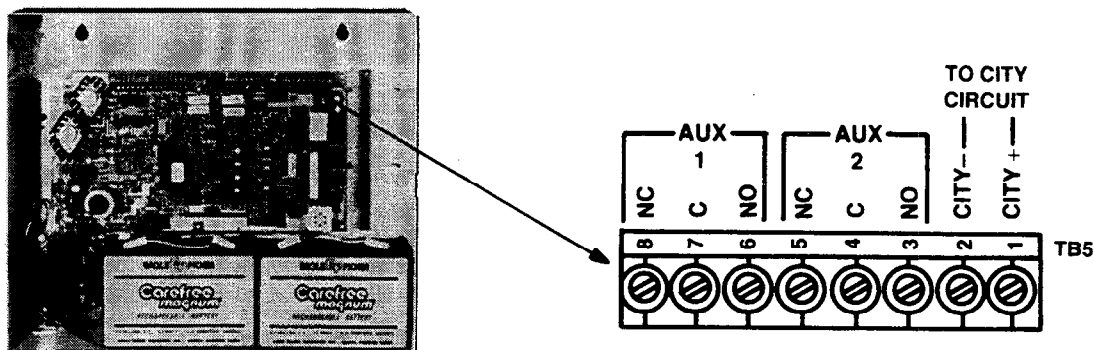

FIGURE 22
12. If using a city circuit (municipal monitoring facility), connect it as shown in Figure 22.